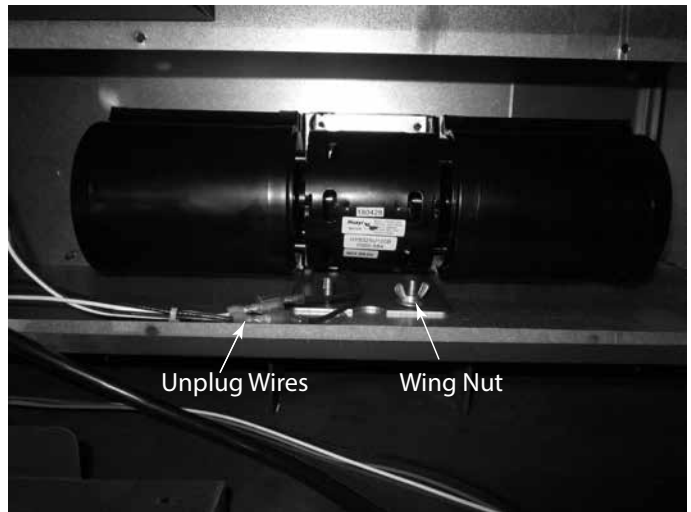

Figure 4.16 Disconnect Wires from Fans
- Disconnect the wires from the fans. See Figure 4.16.